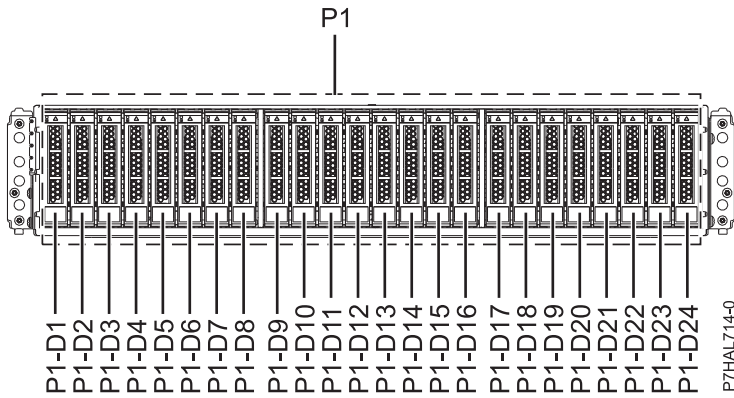
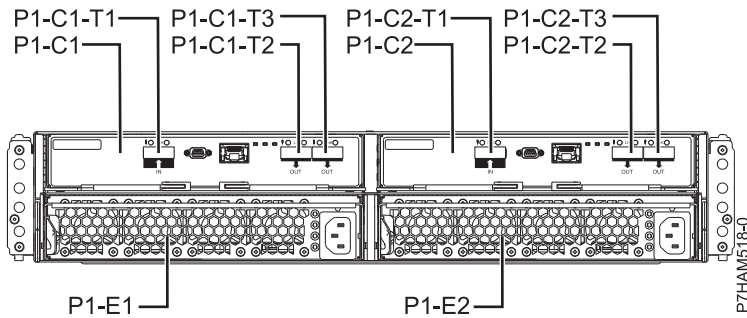

Figure 9. Front view of the 5887 disk drive enclosure showing the disk drive locations
Figure 10. Rear view of the 5887 disk drive enclosure
1. Identify the part and the enclosure that you want to service. The disk drive and SSD slots are located in the front of the enclosure. Figure 9 and Figure 10 show the front view and rear view of the enclosure and the disk drive locations in the enclosure.